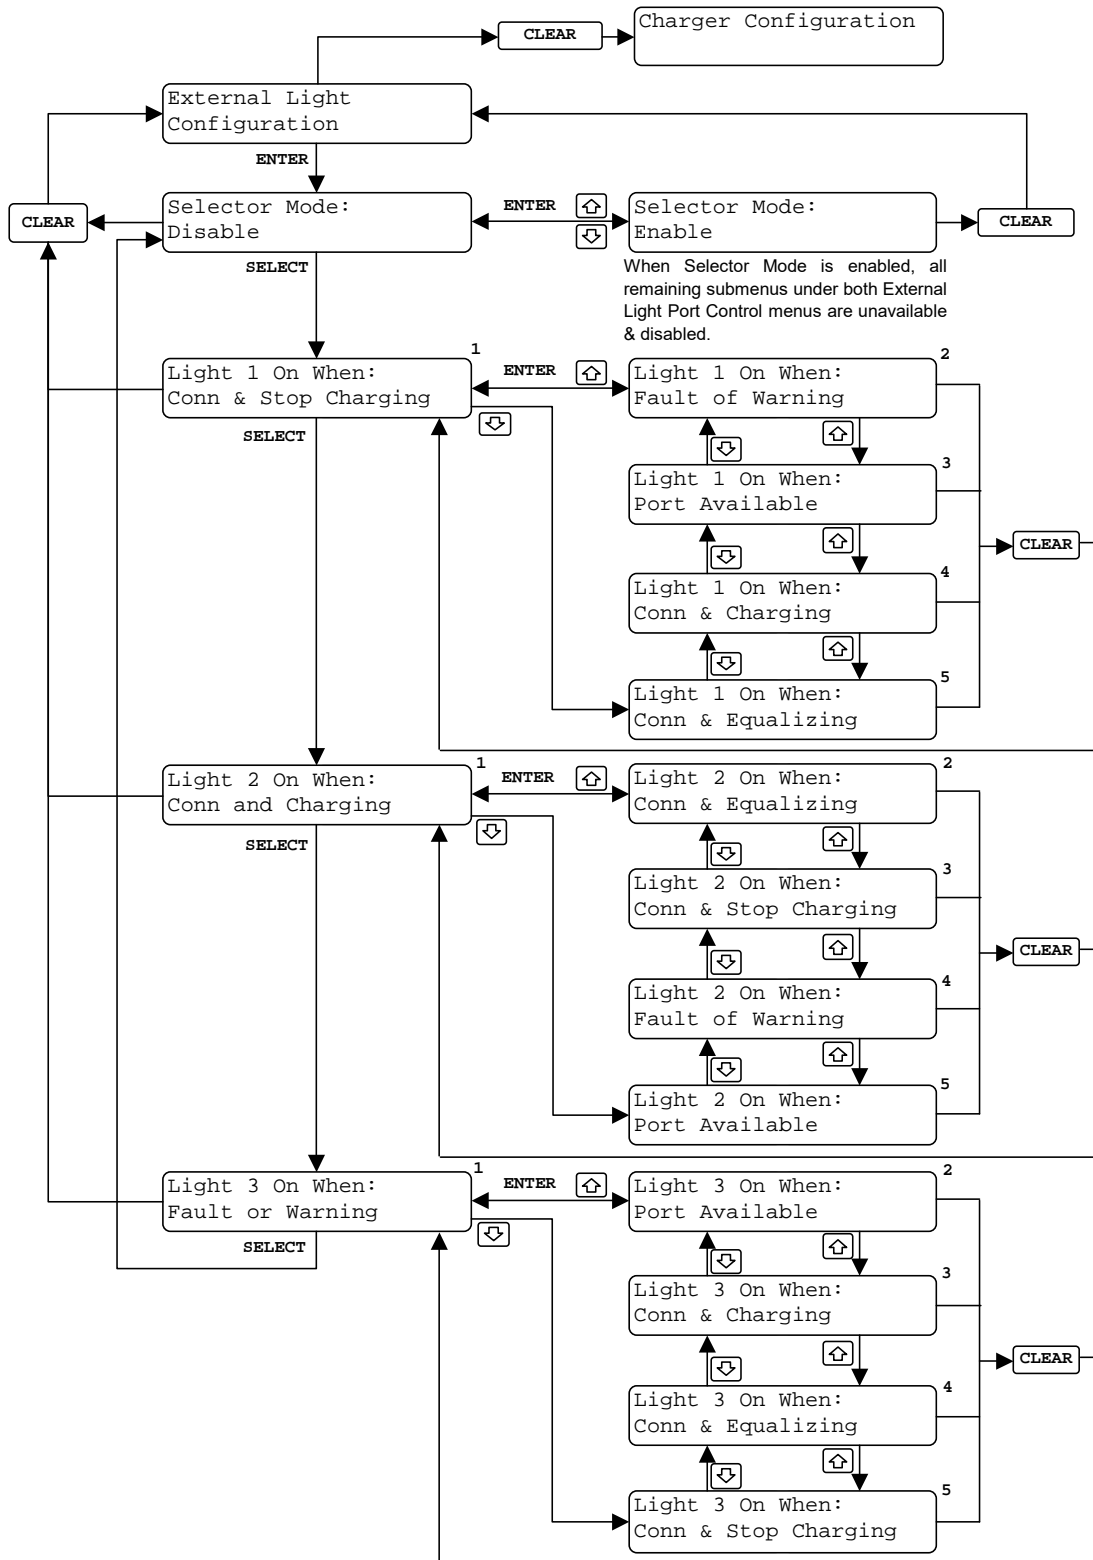

Figure 5- 12 External Light Configuration Menu
- Press <enter> to display the Light 1 setting. Figure 5- 12)